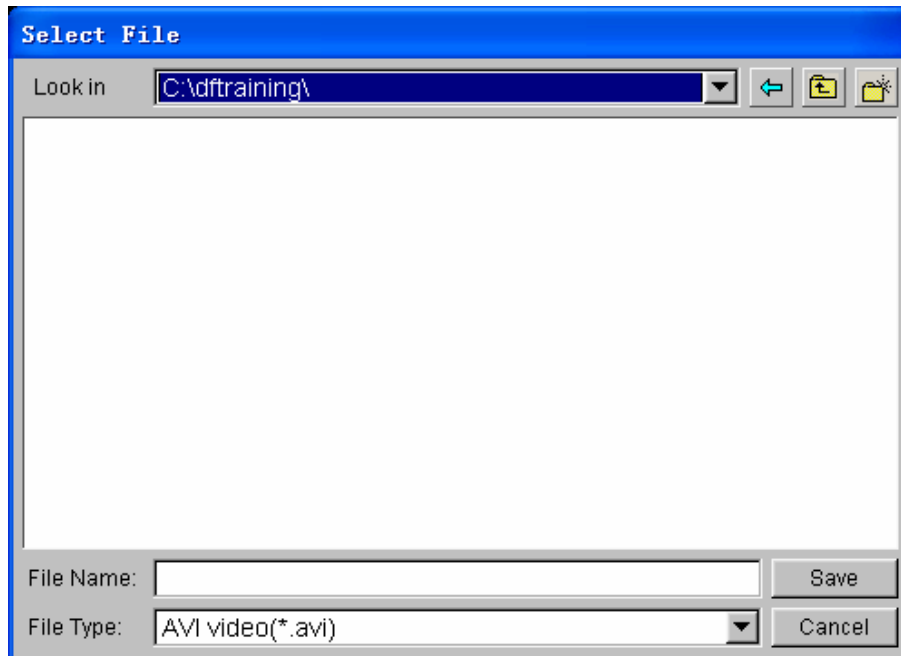

Figure 159: Save AVI file
5. Enter a name of the **AVI** movie file (e.g. traincase.avi) at the input data field of File Name illustrated in Figure 159.